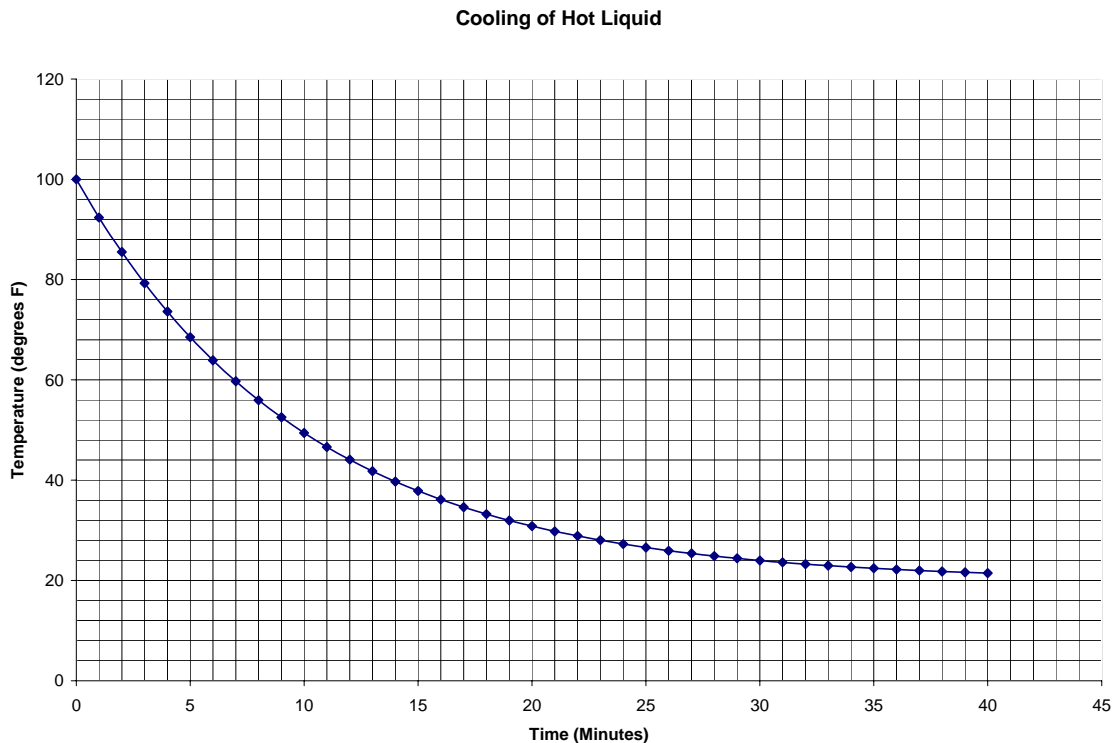

Figure 1 - Analytic Solution for Cooling of a Hot Cup with Insulating Value of 0.1
**Activity 2** – Plot the values of the cup temperature on Figure 1 below
The line in figure 1 shows the analytic solution for the temperature over the period with the insulation factor “ $\alpha$ ” of 0.1.
**Activity 3** - Plot the values of the cup temperature on Figure 1 to see the effect of saving this effort.
**Activity 4** - Plot the cup temperatures on Figure 1.